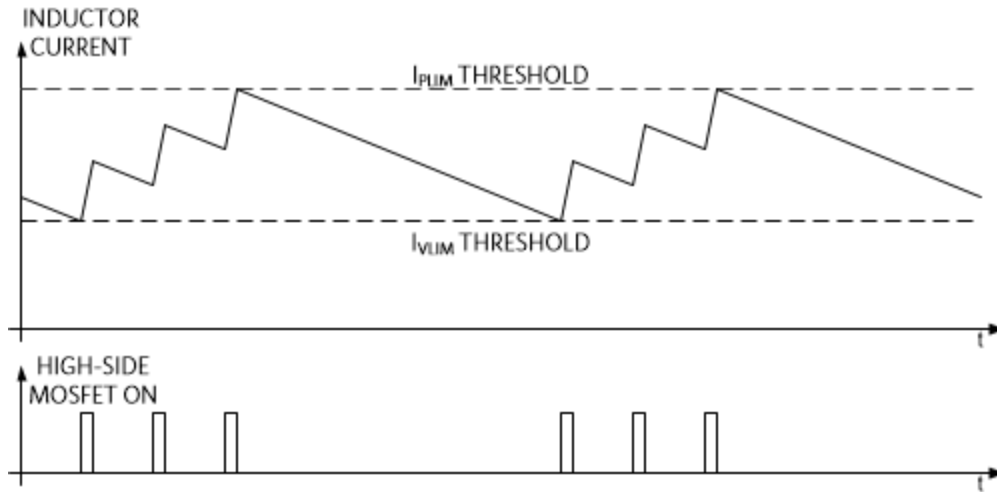

Figure 1. Overcurrent protection scheme with  $I_{PLIM}$  and  $I_{VLIM}$ .
**Figure 1** shows the overcurrent protection scheme.